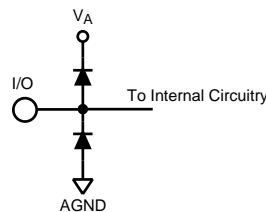

Figure 2.
- (1) The inputs are protected as shown below. Input voltage magnitudes above V_A or below GND will not damage this device, provided current is limited per Note 4 of the Absolute Maximum Ratings Table. However, errors in the A/D conversion can occur if the input goes above 2.6V or below GND as described in the Operating Ratings section. See Figure 2.
- (2) With a full scale differential input of $2V_{P-P}$, the 14-bit LSB is $122.1\text{ }\mu\text{V}$.
- (3) Typical figures are at $T_A = 25^\circ\text{C}$ and represent most likely parametric norms at the time of product characterization. The typical specifications are not ensured.
- (4) Parameters specified in dBFS indicate the value that would be attained with a full-scale input signal.
- (2) With a full scale differential input of $2V_{P-P}$, the 14-bit LSB is 122.1 μV .
- (3) Typical figures are at $T_A = 25^\circ C$ and represent most likely parametric norms at the time of product characterization. The typical specifications are not ensured.
- (4) This parameter is specified by design and/or characterization and is not tested in production.
- (5) I_{DR} is the current consumed by the switching of the output drivers and is primarily determined by load capacitance on the output pins, the supply voltage, V_{DR} , and the rate at which the outputs are switching (which is signal dependent). $I_{DR} = V_{DR}(C_0 \times f_0 + C_1 \times f_1 + \dots + C_{13} \times f_{13})$ where V_{DR} is the output driver power supply voltage, C_n is total capacitance on the output pin, and f_n is the average frequency at which that pin is toggling.